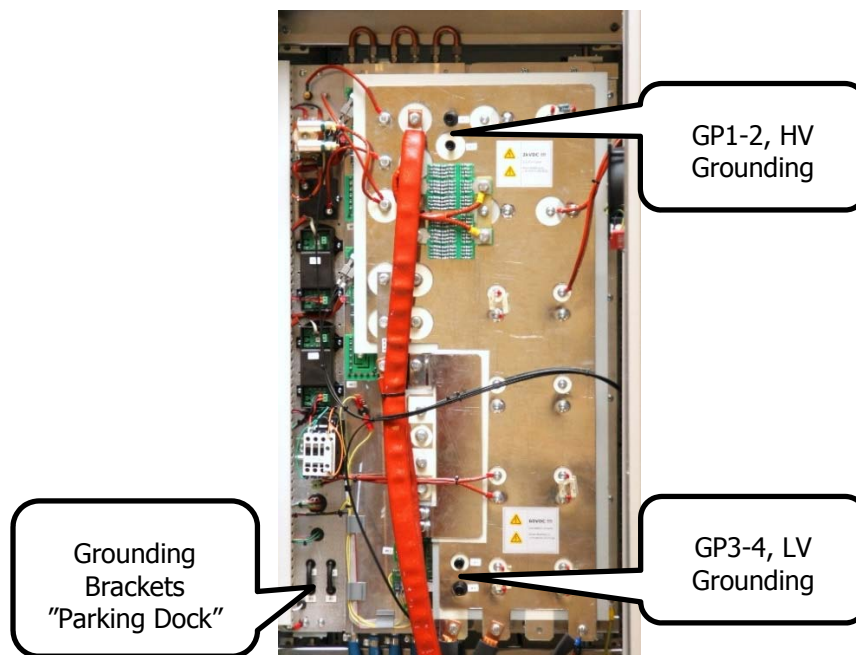

Figure 21: Grounding Points for HV and LV capacitor banks
- Inspect the voltmeters, and verify that the voltage is less than 5V (LV) and 50V (HV).
- Move the "Grounding Brackets" from their "Parking Docks" to the Grounding Points on C_HV and C_LV (GP1-2 and GP3-4 respectively, see Figure 21 below).